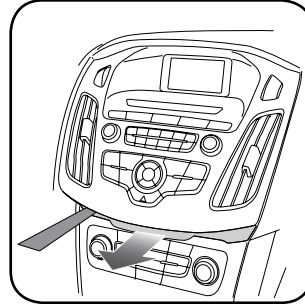

Fig. 1.1
1. Unclip and remove the trim panel at the bottom of the factory bezel (this panel contains the airbag light). (Fig. 1.1)